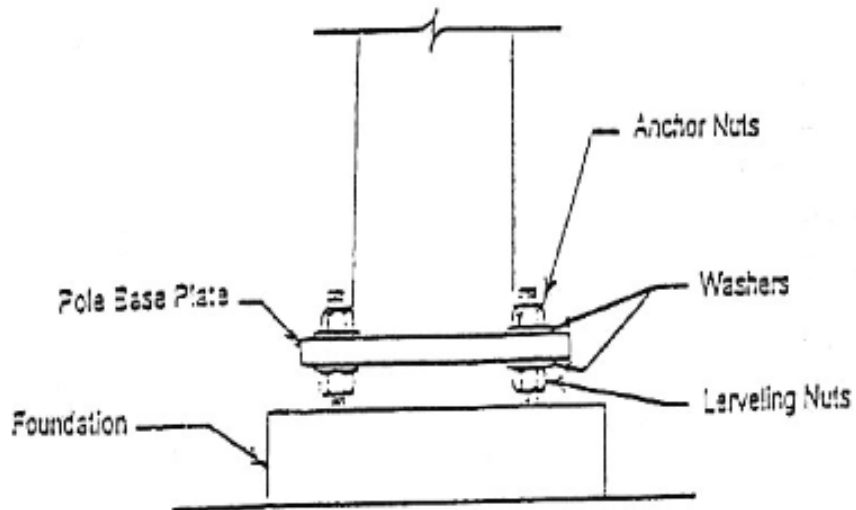

FIGURE 5
- Place anchor nuts and washers on anchor bolts and tighten. (FIG.5).